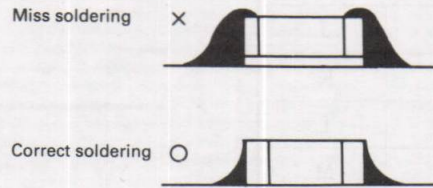

Figure 9
8. When soldering the chip, do not apply excessive solder as shown in Fig. 9 below, since the chip itself may crack or the electrodes may be disconnected from the chip due to eventual bending of the soldered portion of the printed wiring board or shrinking of the solder.